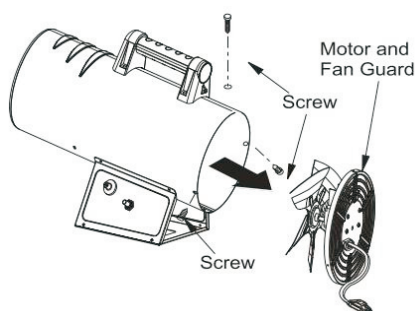

Figure 5-Removing Motor and Fan Guard from Heater (Heater may vary from illustration)
2. Access ground screw through underside of heater base. Remove ground screw. Disconnect the green motor wire and the green power cord wire from underside of shell (see Figure 5).
5. Remove screws holding motor mount to shell. Use nut-driver (see Figure 5).
14. Carefully route motor wires through hole guard into rear of heater shell, as shown in Figure 5